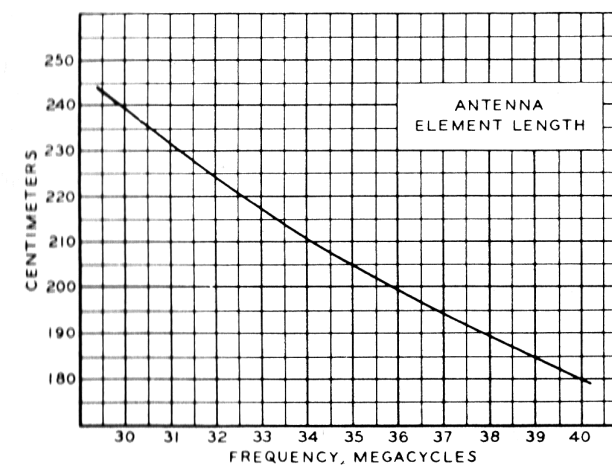

Figure 2. Antenna Element Tuning Chart
9. Refer to Figure 2 and determine the length of the telescoping antenna elements for the operating frequency desired. Refer to Figure 3, and loosen the locking nut, with a 5/8-inch open-end wrench. Position the telescoping element to the proper length determined from Figure 2 and tighten the locking nut securely. Complete this procedure for the three remaining elements, exercising care that all four are the same length.